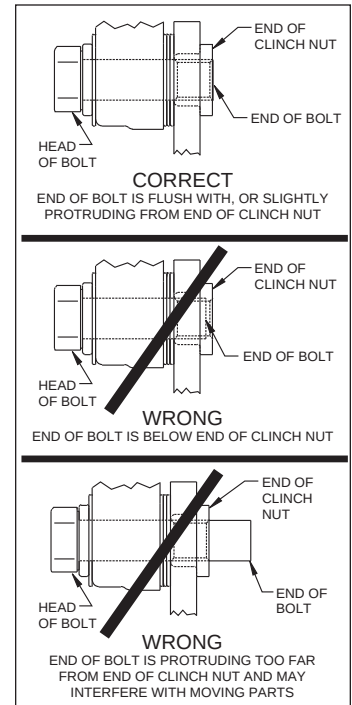

Figure 4. Clinch Nut Engagement Diagram
Assembly Instructions (numbers in parenthesis refer to the parts list, and Figure 1 on the preceding pages): **CAUTION:** All mounting bolts must fully engage clinch nuts. Be sure to check that all bolts are either flush or protruding through flanged side of clinch nut after shimming, Figure 4.
•**NOTE:** Please reference the caution statement at the beginning of the assembly instructions. Mount the caliper (3) onto the caliper mounting bracket (1) using bolts (5) and washers (4), as shown in Figure 1. Initially place two .035" thick shims (6) on each bolt between the caliper and the bracket, Photo 3. Temporarily tighten the mounting bolts and view the rotor (2) through the top opening of the caliper. The rotor should be centered in the caliper, Photo 4. If not, adjust by adding or subtracting shims between the bracket and the caliper. Always use the same amount of shims on each of the two mounting bolts. **NOTE:** The end of each bolt must be flush with or slightly protruding from the head of the clinch nut, as shown in Figure 4. If necessary place spare shims between washer (4) and caliper mounting ear to achieve the proper clinch nut engagement. Once the caliper alignment and clinch nut engagement are correct, remove the bolts one at a time, apply red *Loctite*® 271 to bolt threads, and torque to 40 ft-lb.